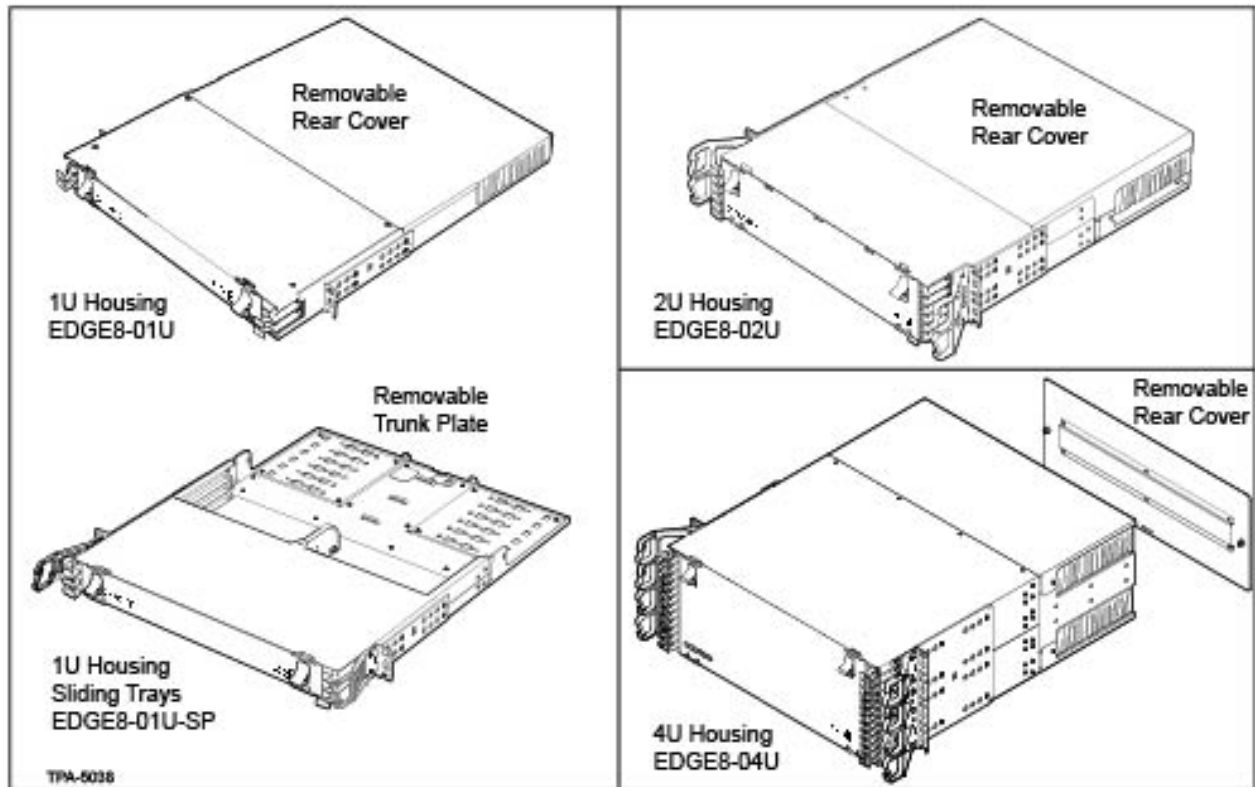

Figure 1 — EDGE8™ Housings
This documentation describes installation of the EDGE8® 1U, 1U-SP, 2U, and 4U Housing Solutions (Figure 1). Except where installation of another housing is unique, only the 4U housing is illustrated.
**Step 1:** Remove the access or rear cover from the housing to reach the backplate (Figure 1).